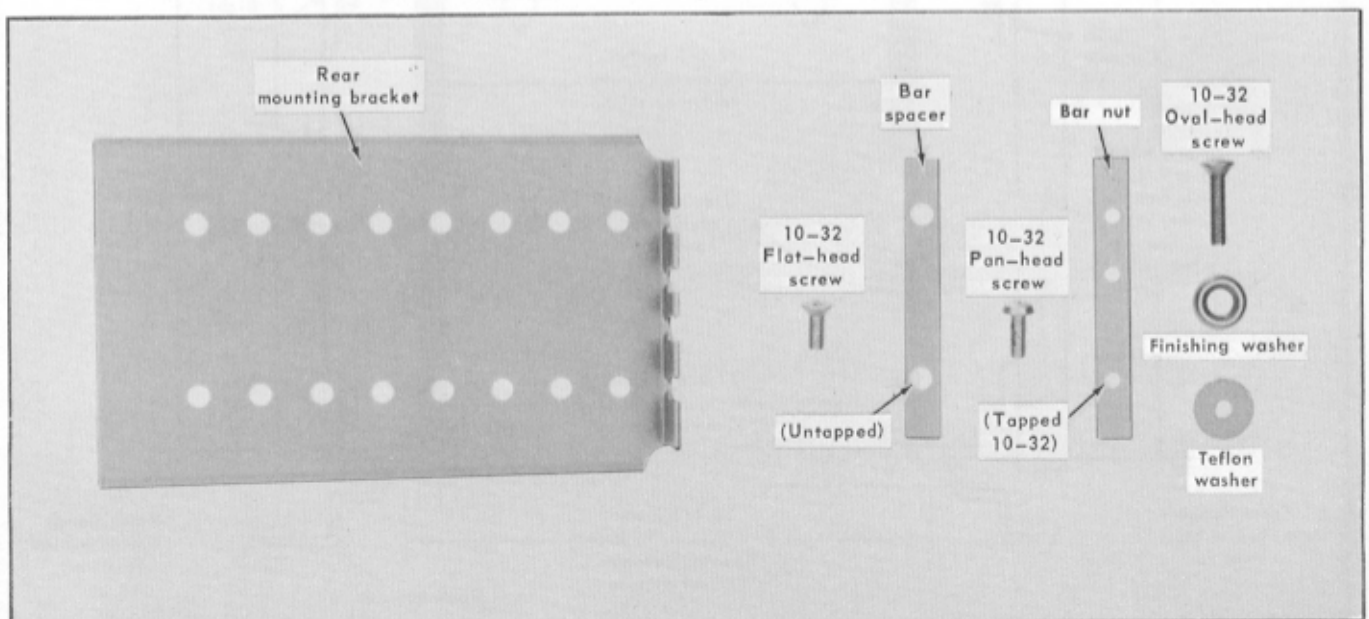
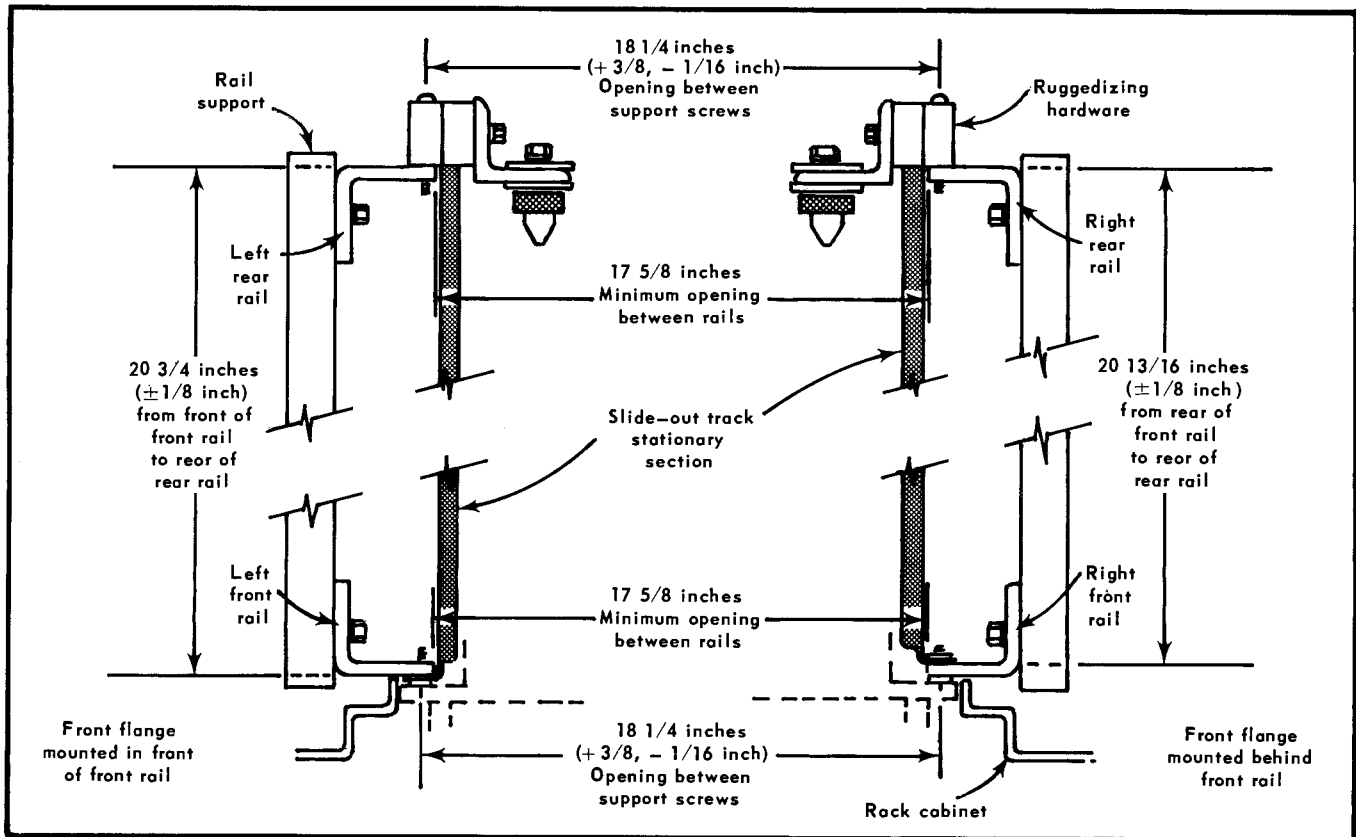

Fig. 8-3. Identification of mounting hardware provided with the Type R230. (Shim material described in the text is not provided.)
Fig. 8-4. Required spacing of support rails for mounting stationary sections of slide-out tracks.
**Front-End Mounting with Untapped Front Rails.** If the mounting holes in the front rails are not tapped, bar nuts (Fig. 8-3) must be used behind the rails to accommodate the mounting screws. All of the options previously described for tapped front rails also apply to the untapped rails when used with bar nuts. In addition, the untapped front rails (with bar nuts) permit the front mounting flanges to be attached to the rear sides of the front rails (see Fig. 8-6C). When mounted in this position, the flanges are clamped between the bar nuts and the front rails. Either 10-32 pan-head screws or 10-32 flat-head screws with shim
**Standard Rear-End Mounting.** To provide an adequate shock-mounted installation, the rear end of each stationary section must be mounted firmly to a rear-support rail using the ruggedizing hardware. If the rack does not have a strong supporting member located the correct distance from the front rails (Fig. 8-4), an additional support must be provided. The instrument will not meet the environmental specifications unless firmly supported at this point. Use the 10-32 round-head screws provided in the ruggedizing kit (see Fig. 8-7) to mount the rear bar supports to the rear rails, and use 10-32 pan-head screws to attach the stationary sections of the tracks to the bar supports. If the mounting holes in the rear rails are not tapped, bar nuts must also be used for mounting the bar supports. For instruments equipped with 20-inch stationary sections (Group B), an additional rear mounting bracket (Fig. 8-3) is required between each stationary section and the rear mount.
Fig. 8-4 shows the maximum and minimum dimensions required between support rails to provide adequate support for the Type R230 and proper operation of the slide-out tracks. Minimum overall depth of the rack from the front surface of the front rails must be at least 22 1/2 inches to accommodate the rear-mount ruggedizing hardware, power cord and interconnecting cables, and to provide enough space for air circulation. (If 20-inch stationary sections are used with rear mounting brackets, the overall rack depth must be at least 23 1/8 inches.)